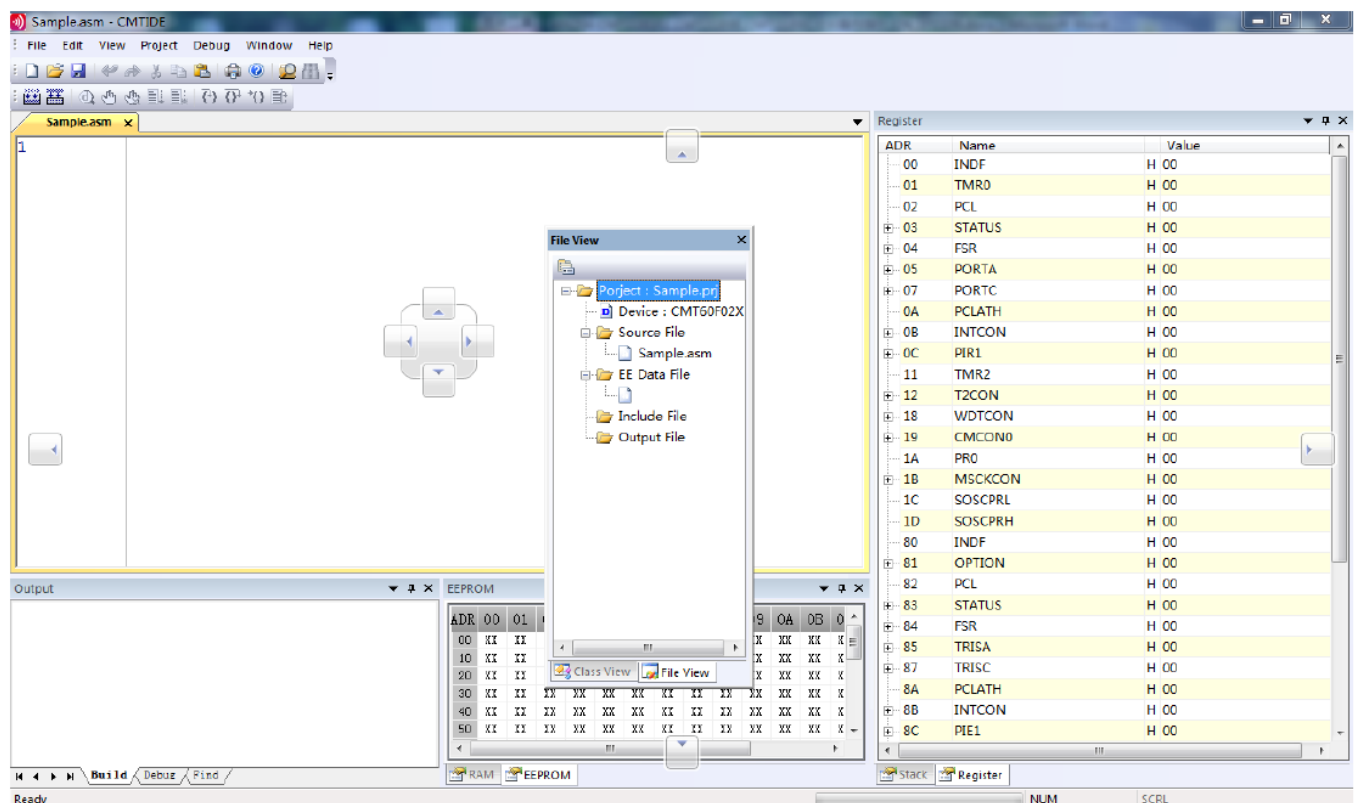

Figure 2. Dragging Window to Screen Position According to Docking Arrow Direction
- For example, click and drag a window area, and the docking arrow appears as shown in Figure 2. When a window is dragged into the direction specified by an arrow, it will dock in the position of the screen corresponding to the direction of the docking arrow.